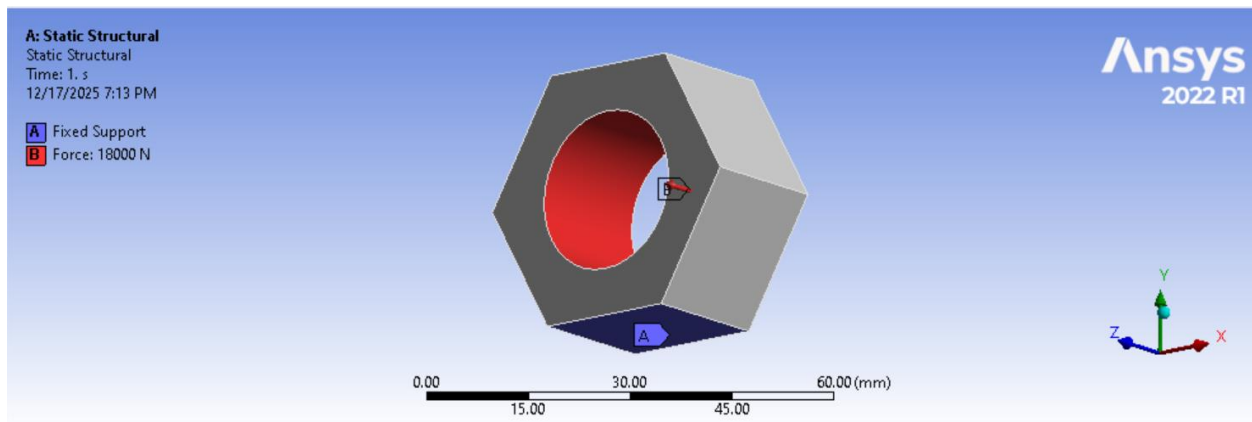

Figure 3a: Nut Model with Boundary Conditions
- **Geometry:** Standard Hexagonal Nut as shown in **Figure 3a**